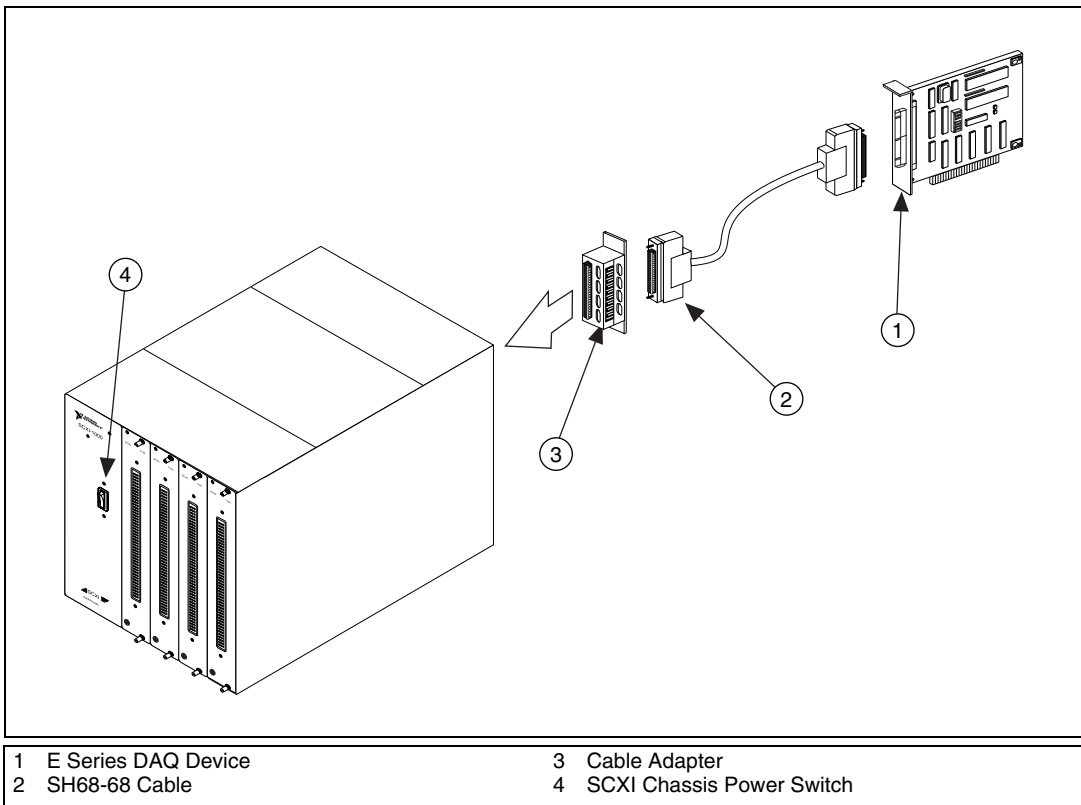

Figure 1. Connecting an SCXI Chassis to a DAQ Device
2. Using an SCXI-1349 cable adapter, connect a 68-to-68-pin cable between the SCXI-1520 module and the E Series DAQ device installed in the host computer, as shown in Figure 1.